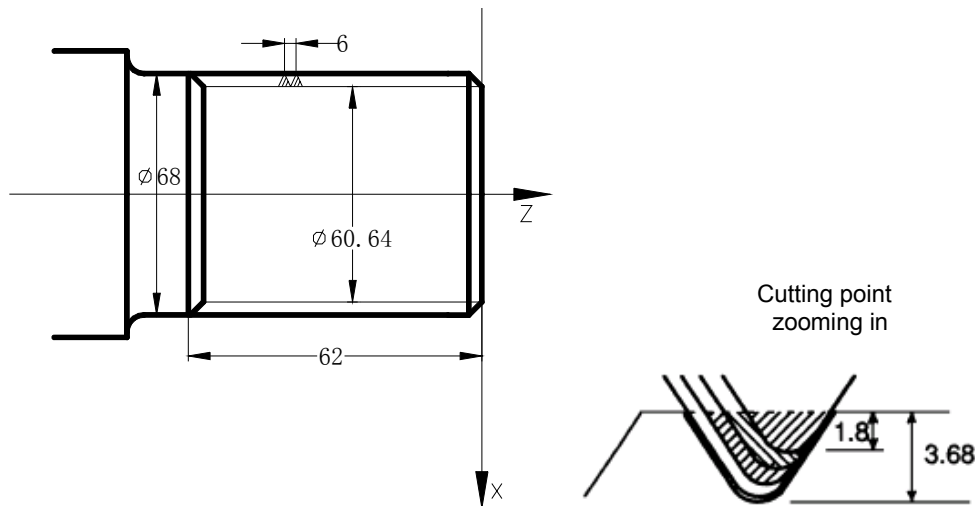

Fig.3-96
- 5) The direction of A→C→D→E is defined by signs of U,W, and the direction of C→D is defined by the sign of R(i). There are four kinds of sign composition of U, W corresponding to four kinds of machining path as Fig. 3-96.
Example: Fig. 3-96, thread M68×6.